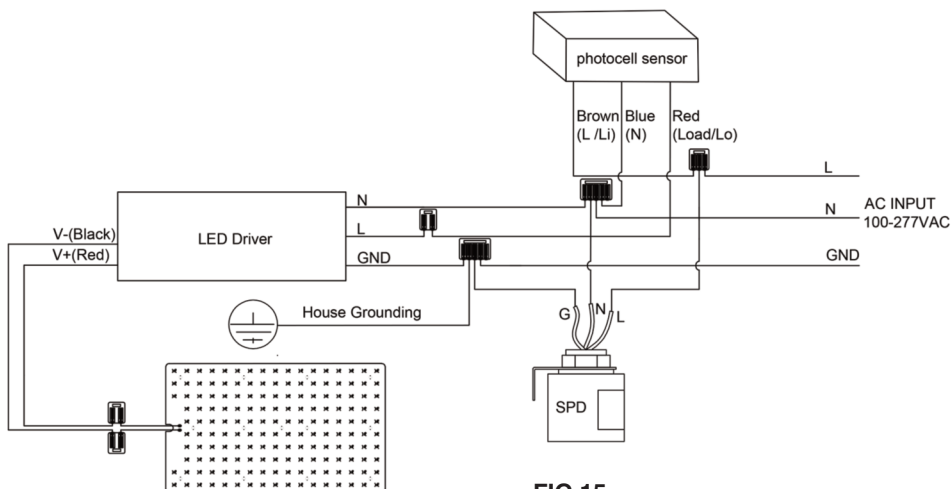

FIG.15
4. FIG.15 is for wiring when a photocell sensor is used.